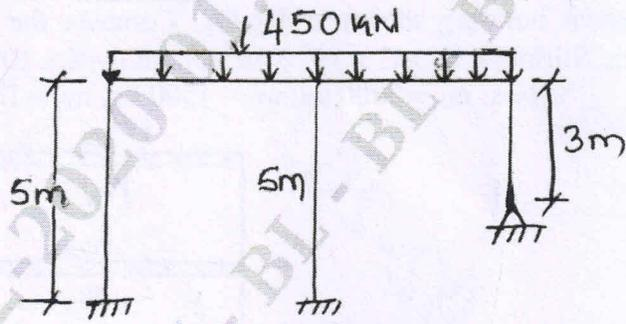

Fig.Q2(a)
- 2 a. Compute the natural frequency in the side sway for the frame shown in Fig.Q2(a). If the initial velocity is 20 mm/sec and initial displacement is 20 mm. Find the displacement at $t = 2$ secs. Damping 10% of critical. Cross section dimension of column = 230 x 300 mm. Grade of concrete = M20.